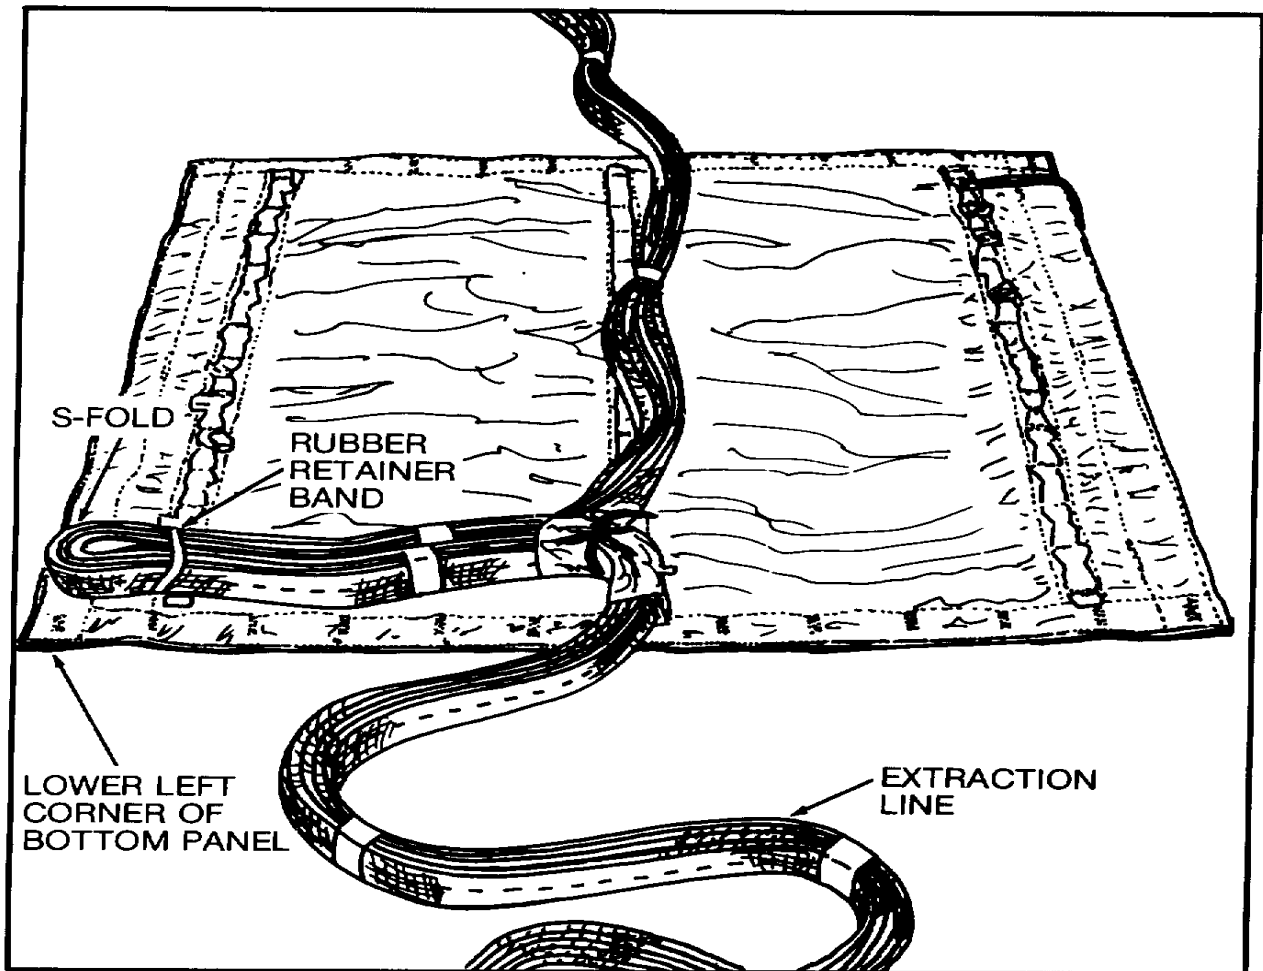

Figure 4. S-Fold of Extraction Line.
- d. Beginning at lower corner of bottom panel, make first S-fold/stow of extraction line and secure with rubber retainer band (figure 4).